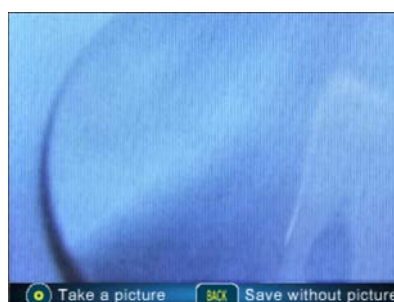

Figure 2.12 – Mode <PHOTO>
13. If <PHOTO> mode is set on (See 2.3.12 for the details about the <PHOTO> mode), then the device display will offer to <TAKE PICTURE> or <SAVE WITHOUT PHOTO> (Fig. 2.12).